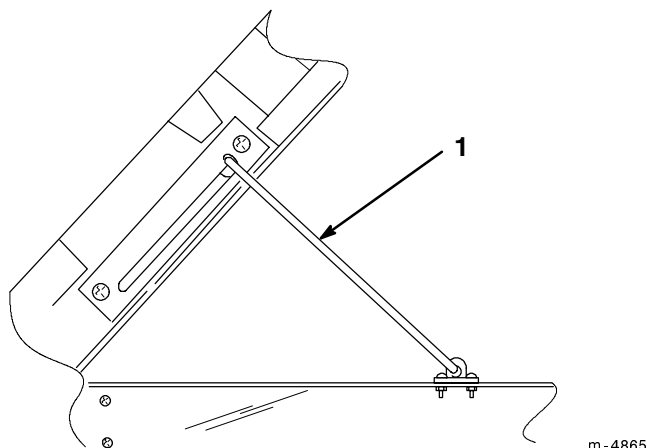

Figure 19
3. Pull up on prop rod to lock in place (Fig. 19).